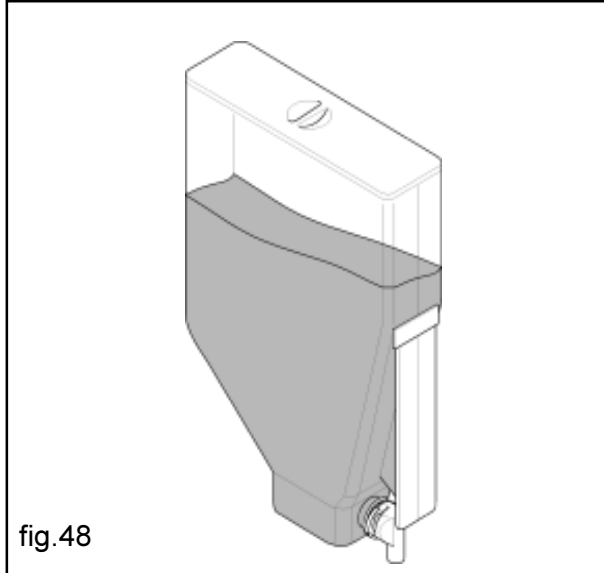

fig.48
- Make sure there are no lumps; avoid compressing the product or using an excessive quantity, to avoid ageing. We suggest filling the containers with the quantity of product needed for the consumption estimated within two subsequent loadings (fig.48))